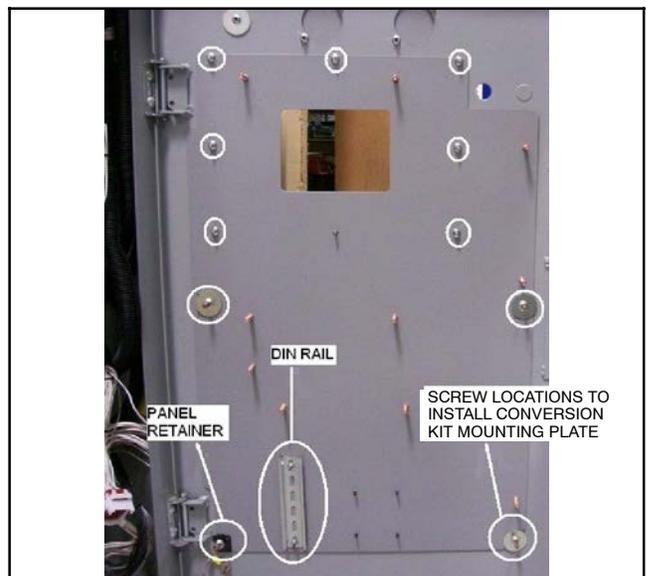
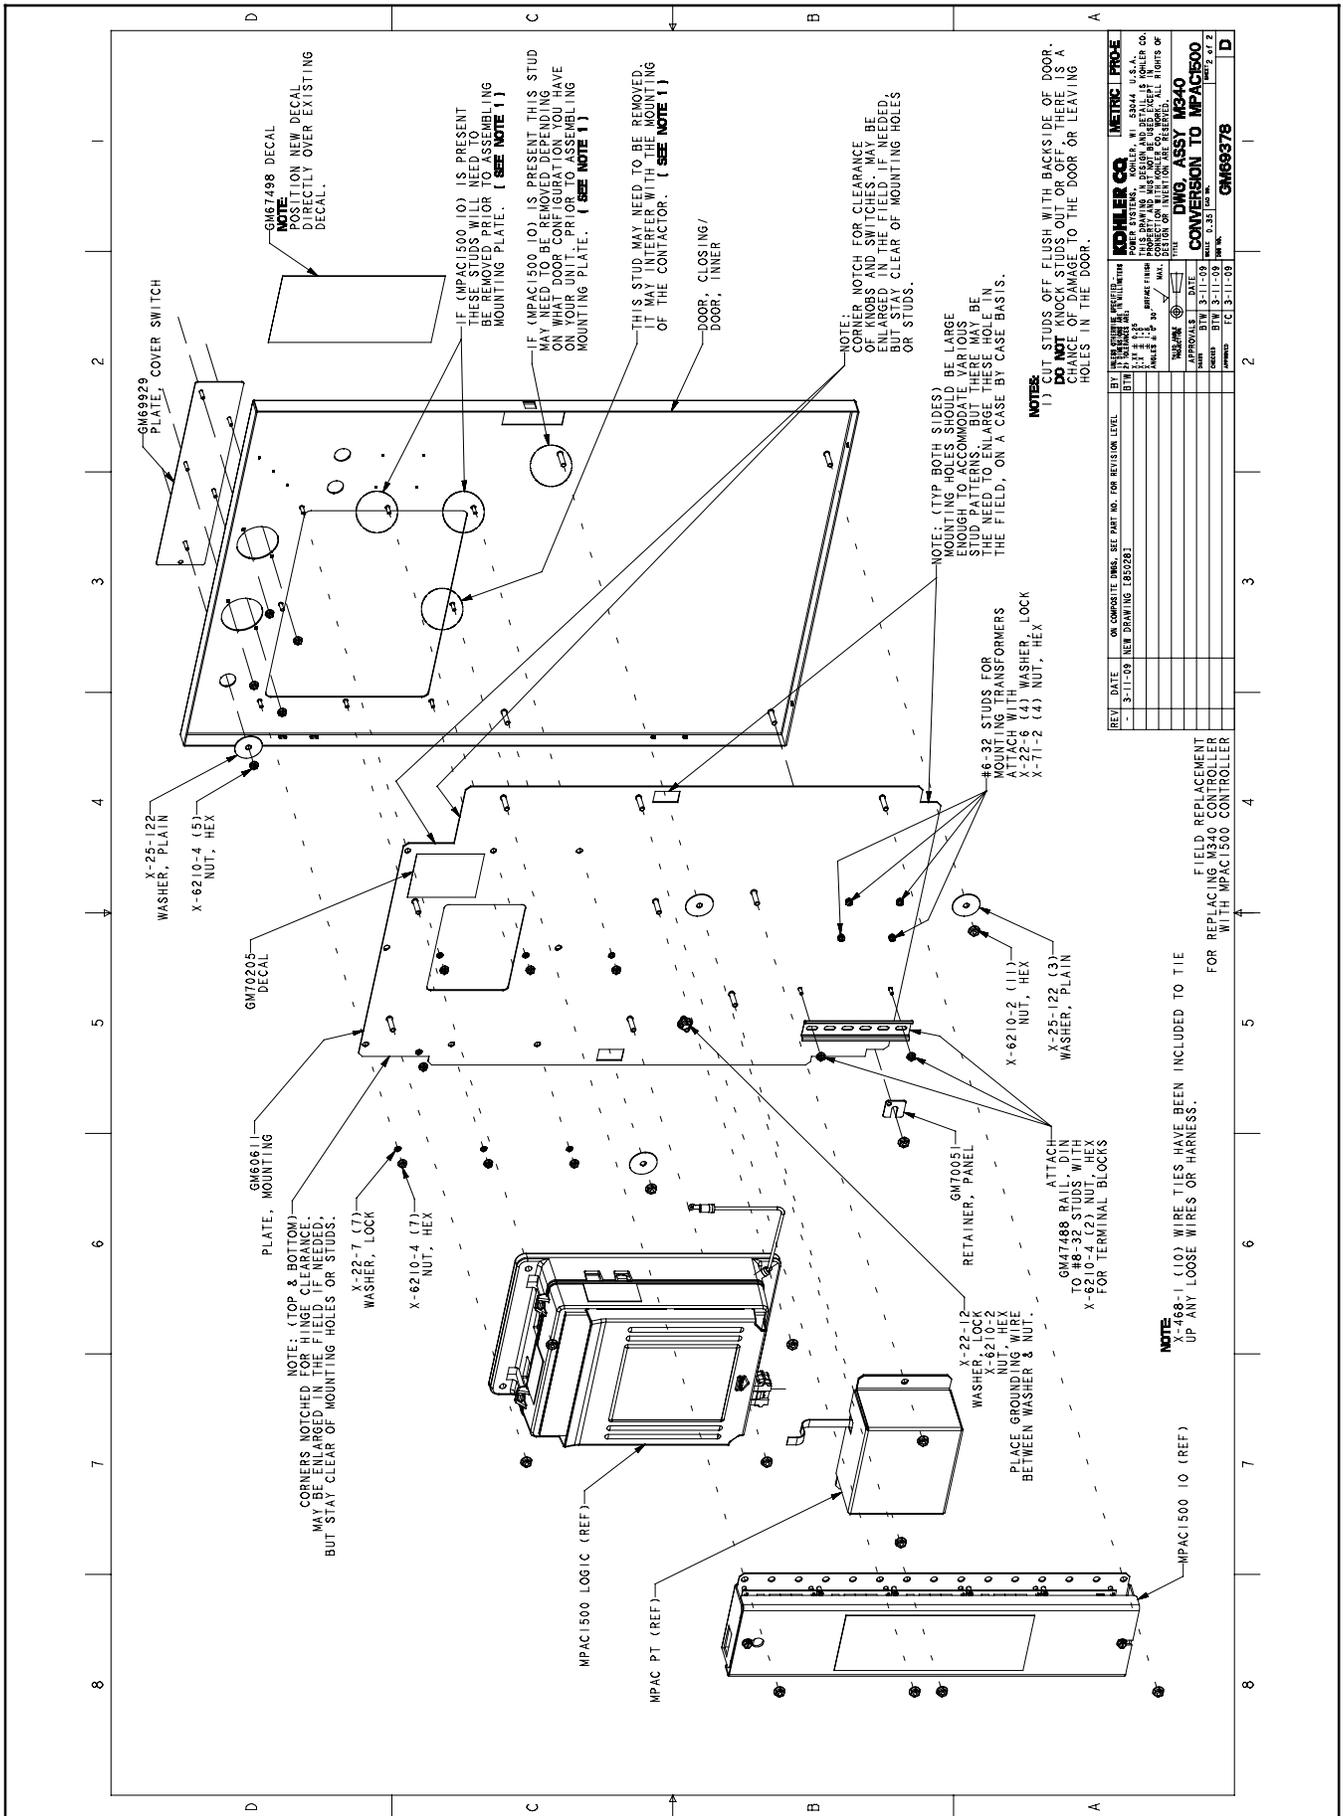
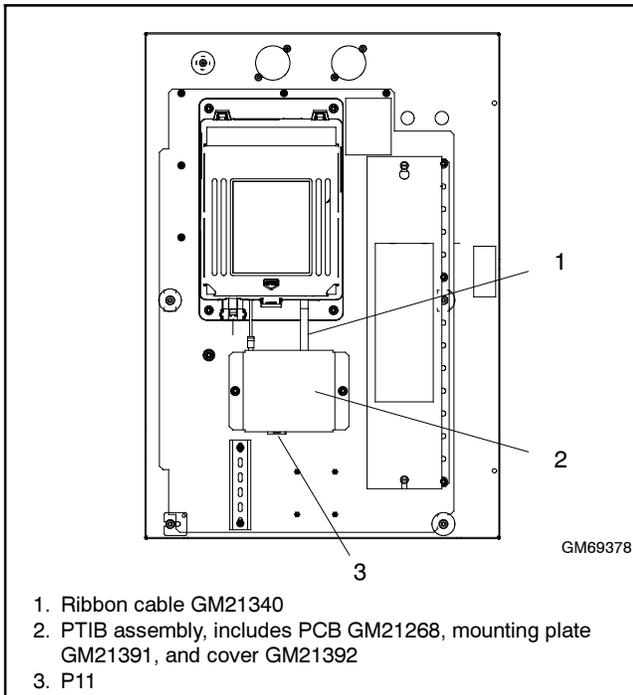

Figure 21 Mounting Plate Installation
Figure 22 Conversion Kit Assembly
Figure 28 PTIB Installation
Note: Refer to the notes in Figure 22 before installing the mounting plate and switch cover plate. Some door studs may need to be cut off and some mounting holes enlarged in the field, depending on the specific application.
17. Install conversion kit mounting plate GM60611. Use seven lock washers X-22-7 and seven nuts X-6210-4 to install the mounting plate as shown in Figure 21 and Figure 22. Install three flat washers X-25-122 with three nuts X-6210-2 as shown.
18. Install DIN rail GM47488 using two nuts X-6210-4. Install panel retainer GM70051. See Figure 21.
19. Install switch cover plate GM69929. Use one washer X-25-122 and five nuts X-6210-4 to install the cover plate as shown in Figure 22 and Figure 23.
23. Place the PTIB assembly onto two studs on the mounting plate. See Figure 22 and Figure 28 for the location.
41. Connect P11 of the conversion kit wire harness to P11 on the PTIB. See Figure 28 for the location of P11 on the PTIB.